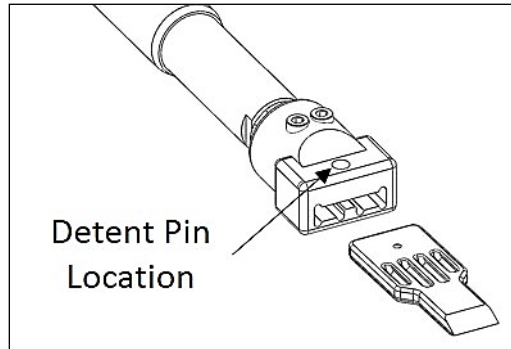

Figure 5. TSB Installation
- 3.1.5. Attach the appropriate TSB to the pneumatic tool by inserting the TSB into the slot on the pneumatic tool. When installed correctly, an audible “CLICK” should be heard when the blade engages the detent pin. See **Figure 5**.